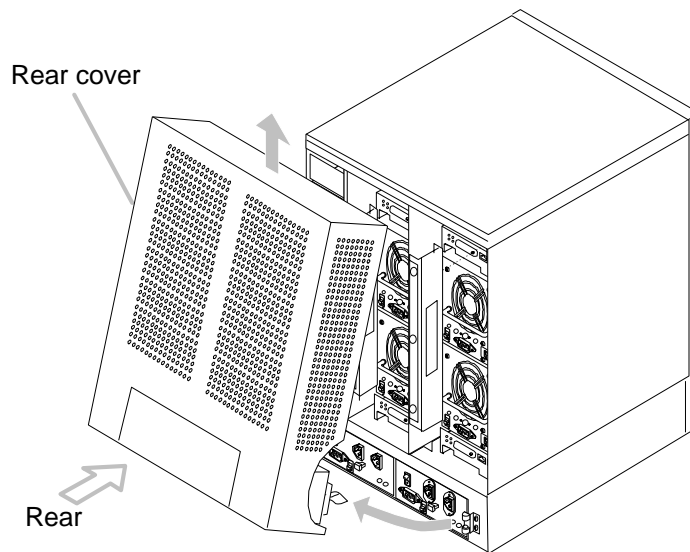

Figure 4.24 Remove the Rear Cover
1. Remove the rear cover. (see figure 4.24)